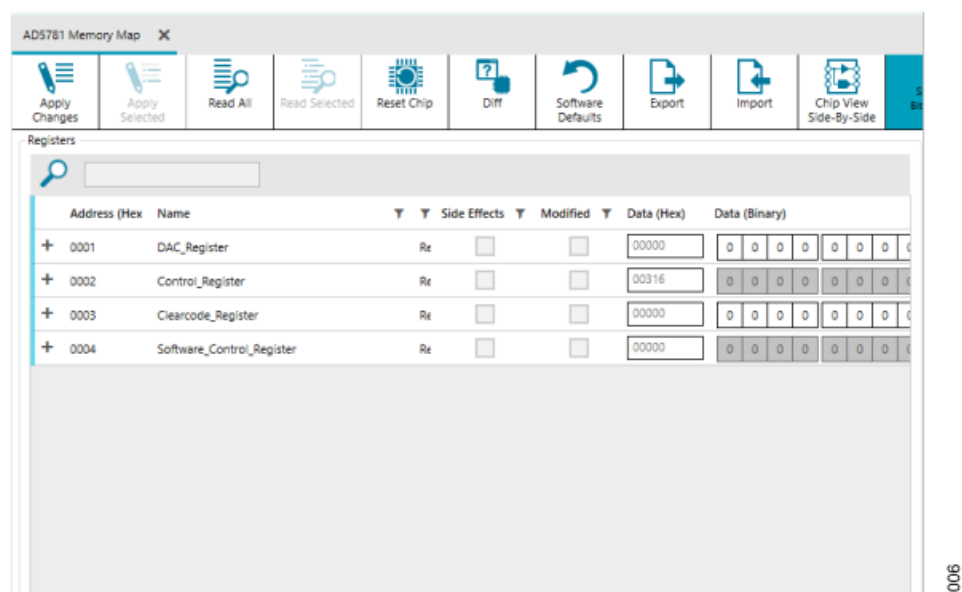

Figure 6. AD5781 Memory Map Tab
- All registers are fully accessible from the AD5781 Memory Map or AD5791 Memory Map tab, see Figure 6. This tab allows registers to be edited at the bit level. The bits shaded in dark grey are read-only and cannot be accessed from the ACE Software. All other bits are toggled.